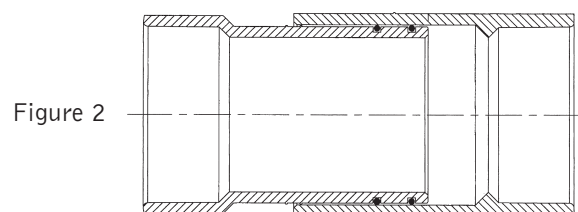

Figure 2
2. Piston type expansion joints* (See Figure 2)